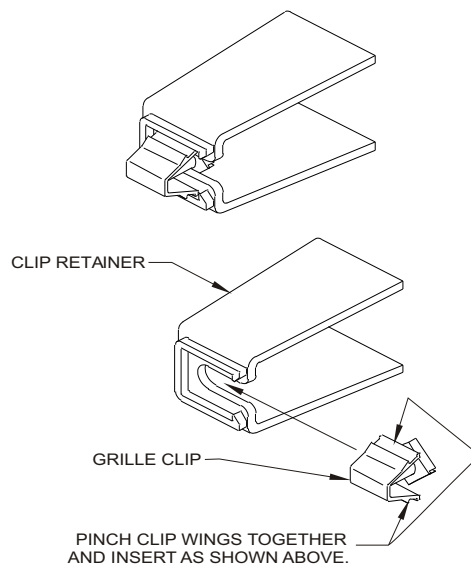

FIGURE 3
- STEP 11. Remove Sportsman from brackets and reinstall grille by inserting the seven grille clips into the slots. Pinch the wings shut and slide into the clip retainers. **SEE FIGURE 3.**